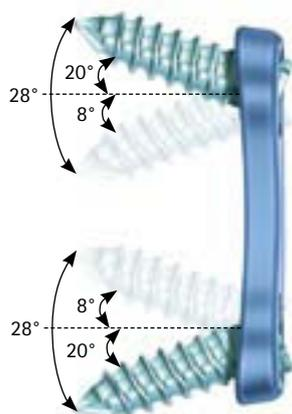

Fig. 13a
Angulation (Fig. 13a and 13b)
- The Quintex® hybrid plate has a maximum angulation of up to +20°/-8° in the distal holes (Fig. 13a) and +15°/-15° in the medial holes of the multilevel plate.